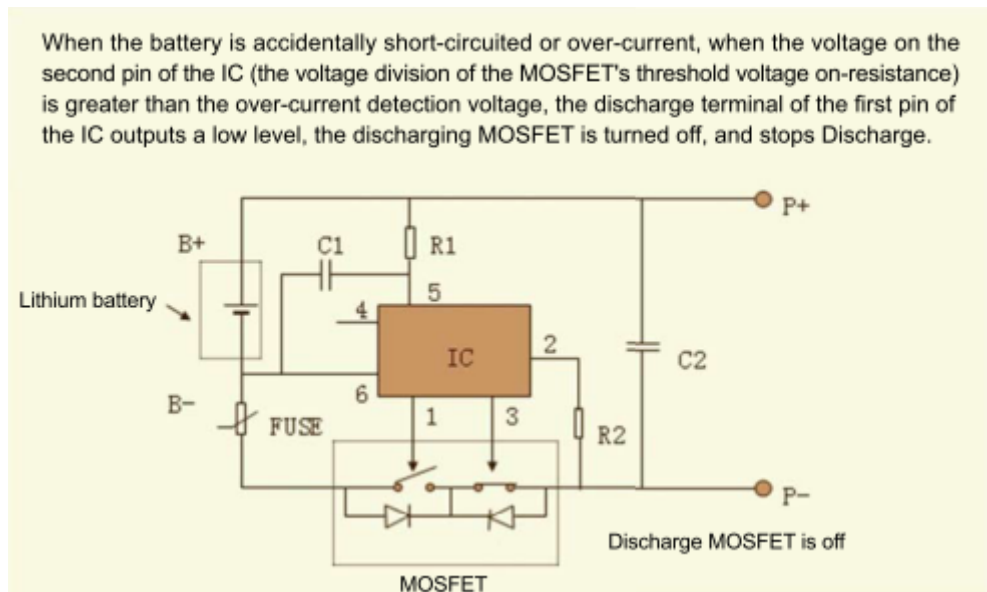

Figure 5-14 BMS internal architecture
- Short-circuit protection (SHORT) test method: Power supply (PS) & LOAD connection is shown in Figure 5-14, LOAD test procedure is shown in Figure 5-16.